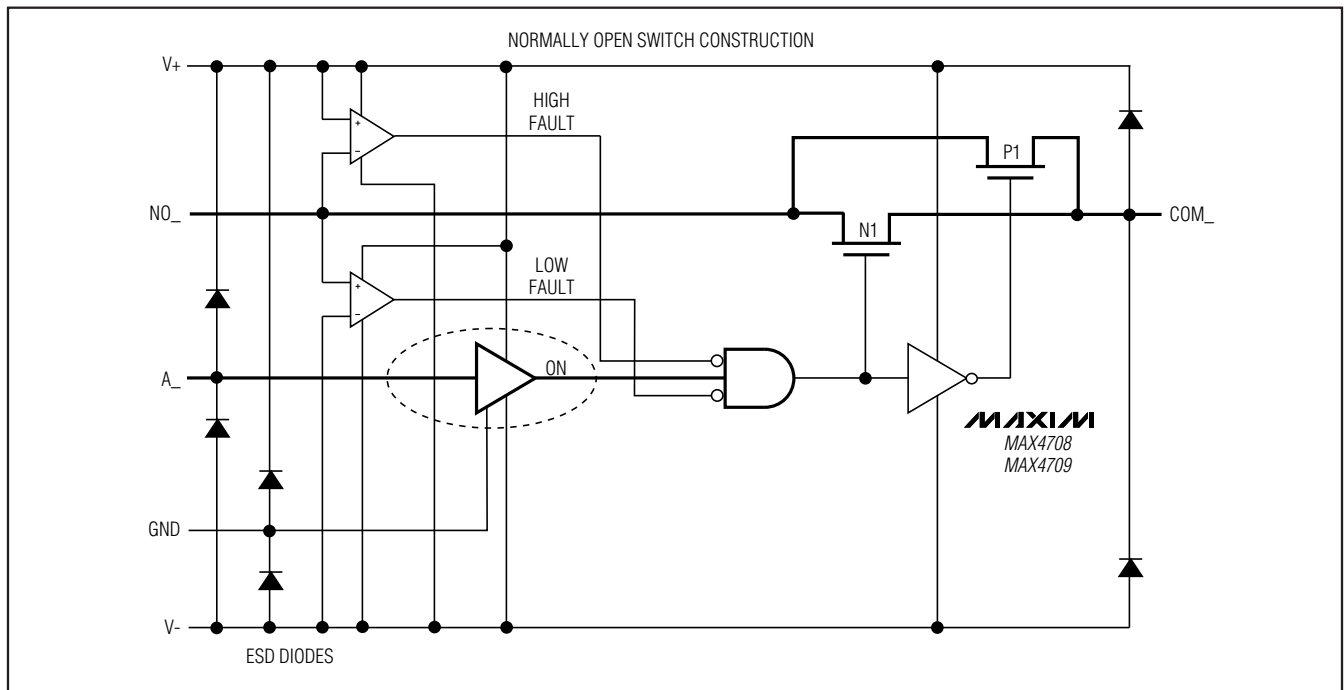

Figure 1. Functional Diagram
Figure 1 shows the internal construction of a single normally open (NO) switch, with the analog signal paths shown in bold. The parallel combination of N-channel FET N1 and P-channel FET P1 form the analog switch. During normal operation, these FETs are driven on and off simultaneously according to the control voltages on Ao. During a fault condition, both FETs turn off.
on NOo ranges between V+ and V-, the multiplexer operates normally, with FETs N1 and P1 turning on and off in response to the control signals on Ao (Figure 1). When the switch state is on, the parallel combination of N1 and P1 forms a low-value resistor between NOo and COMo so that signals pass equally well in either direction. When the switch state is off, both NOo and COMo are high-impedance inputs.